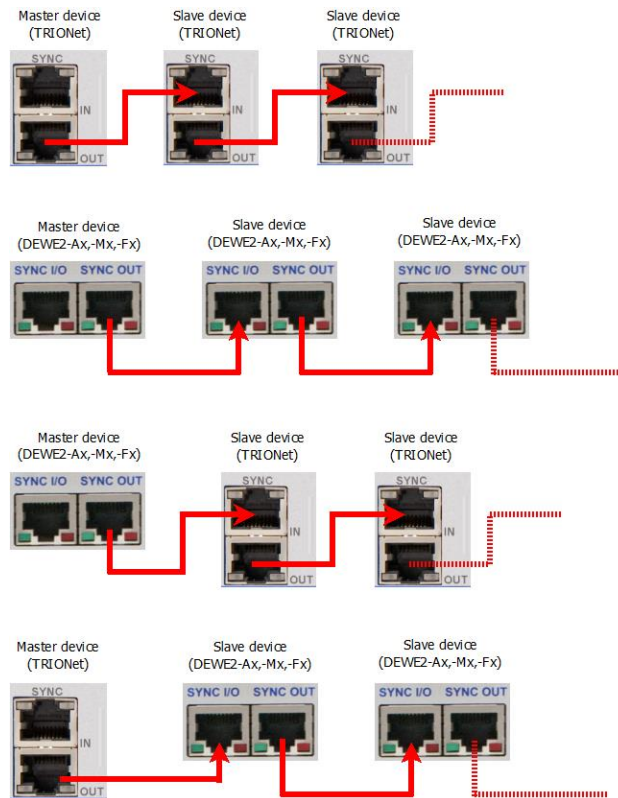

Figure 12-18: Sync wiring of different OXYGEN Net system variants
The Master measurement unit must be the Sync master within the OXYGEN Net system. Therefore, connect one end of the Sync cable to a *SYNC OUT* or *SYNC I/O* connector of the Master unit and connect the other end to a *SYNC IN* or *SYNC I/O* connector of the Slave unit. The Sync signal can be daisy chained to several Slave units (see Figure 12-18).
- If the sync wiring is incorrect, the background color of the *SYNC indicator* will be orange and the message *Waiting for sync* will be displayed in the lower right corner of the software (see Figure 12-24). If this appears, make sure that the sync wiring is correct. For further information, please refer to section 12.2.2 and Figure 12-18.